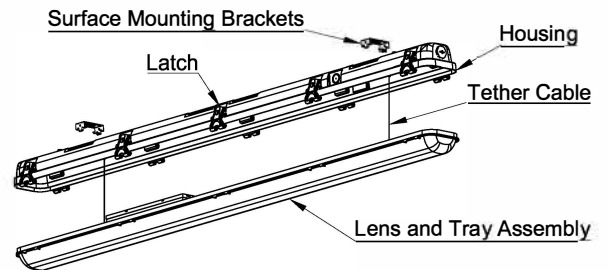

Fig 1
2. Unlatch the Lens and Tray Assembly from Housing. Pre-installed Tether Cables will prevent Lens and Tray Assembly from falling down as shown in Fig. 1.